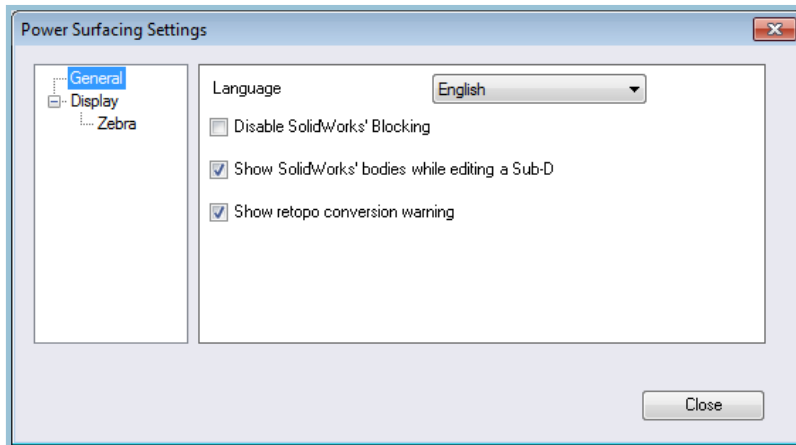

Figure 2 - Setting SolidWorks visibility in the Power Surfacing Options dialog
1. From the Power Surfacing menu, Options, under General, activate Show SolidWorks' bodies while editing a Sub-D, (Figure 2).